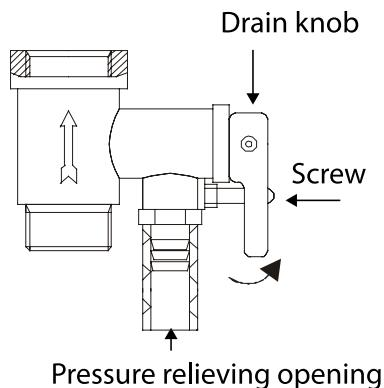

Fig. 9
6. Water can be drained through a composite relief valve (Fig.9.) (unscrew the composite relief valve drain knob screw and set the drain knob to the upper position, at that hot water tap must be open, and cold water supply valve must be closed).